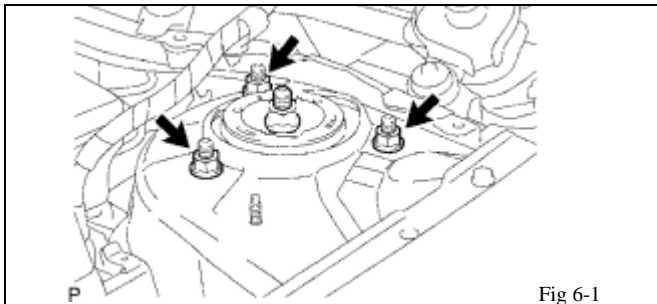

Fig 6-1
- (a) Install the shock absorber with coil spring (upper side) with the 3 nuts. (Fig 6-1)